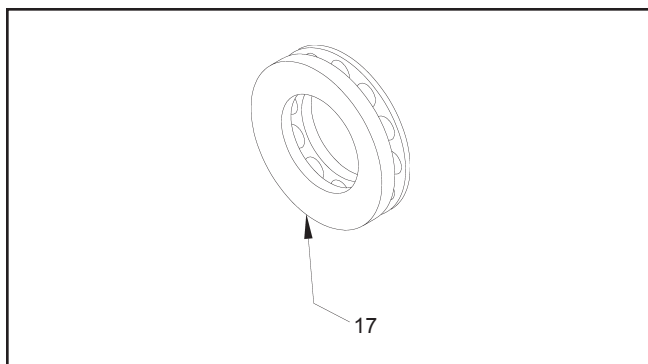

Figure 14. PW / PY Pump Thrust Bearing
1. Inspect bearing areas on (78) and O-ring.
2. Inspect thrust bearing (76) see page 121 figure 14.
Refer to Figure 14.